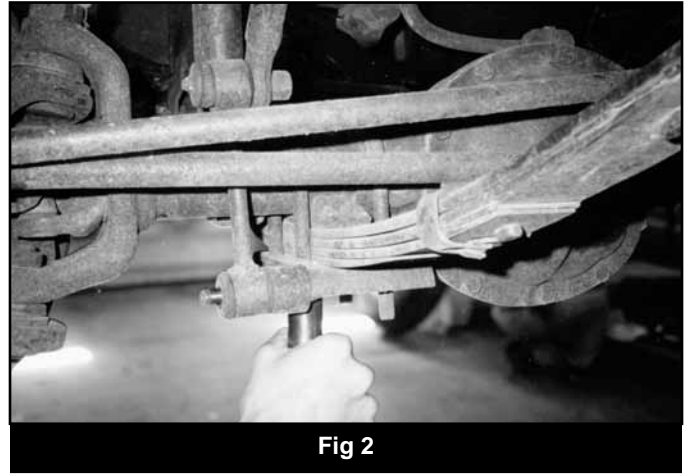

Fig 2
3. Place a hydraulic jack under the front axle. Remove U-bolts holding the OE leaf pack to the axle. New U-bolts are supplied. Raise the jack/axle to allow spring removal. Remove the springs shackle and stationary eyebolts and remove springs. (Fig 2)